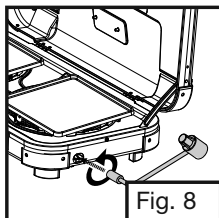

Fig. 8
8. Screw regulator into stove hand tight. (Fig. 8)